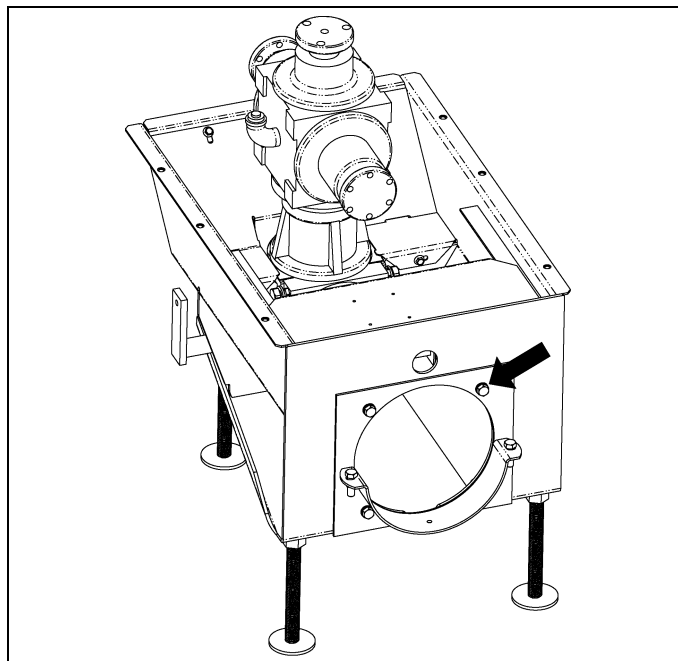

Figure 5D
6. Assemble the sump face plate to the Grain Flow sump using four (4) 3/8" x 1" bolts, lock washers and nuts. (See Figure 5D.)